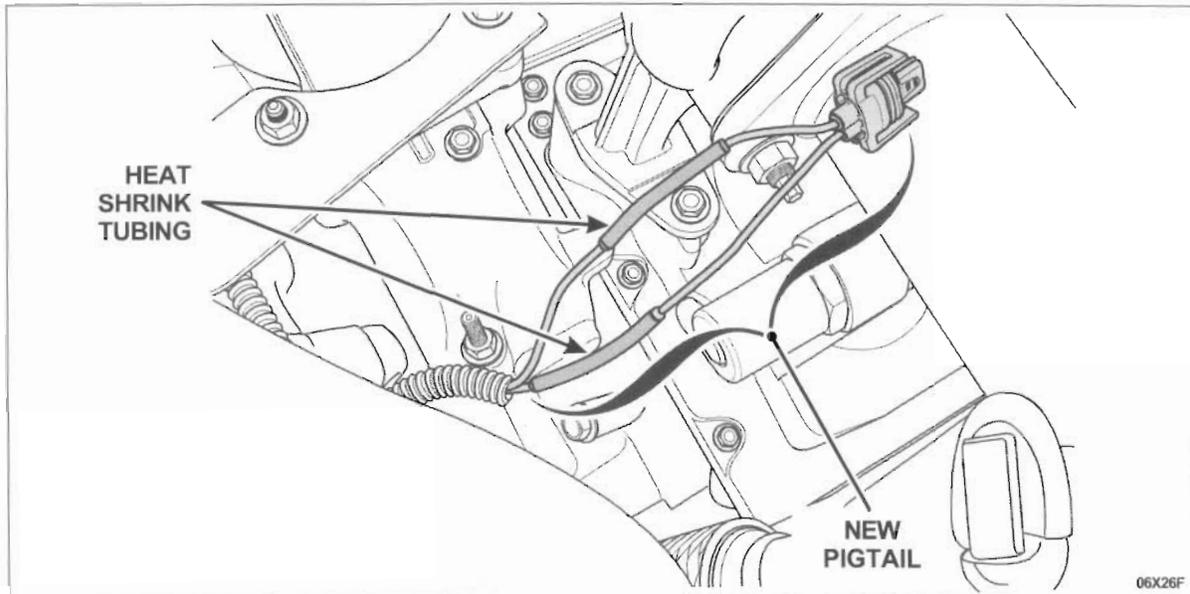

FIGURE 6
8. Center the heat shrink tubing over the splices and heat them with the heat gun from the tool kit until adhesive flows from the ends of the tube. See Figure 6.